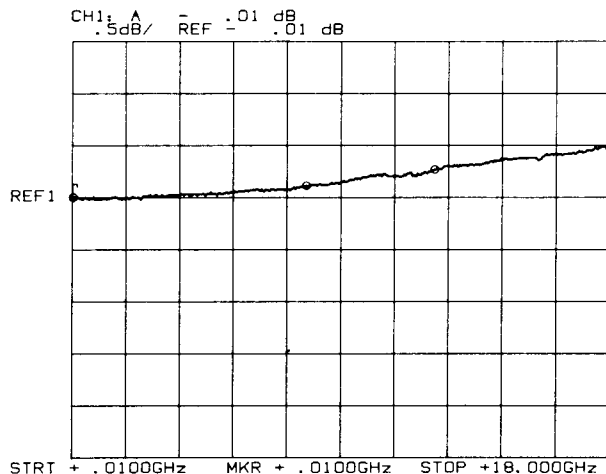

Figure 4-10. Detector Tracking Display
6. On the HP 8756A, press **[SHIFT] [REF]** to bring the active marker (**M1**) to the reference line. The trace between markers **M1** and **M2** (.01 to 8 GHz) should now be within one division ($\pm .5$ dB) of the reference line (see Figure 4-10). Read the trace between **M2** and **M3** (8 to 12 GHz). It should be within two divisions (± 1 dB) of the reference line. Between **M3** and **M4** (12 to 18 GHz), the trace should be within three divisions (± 1.5 dB) of the reference line.